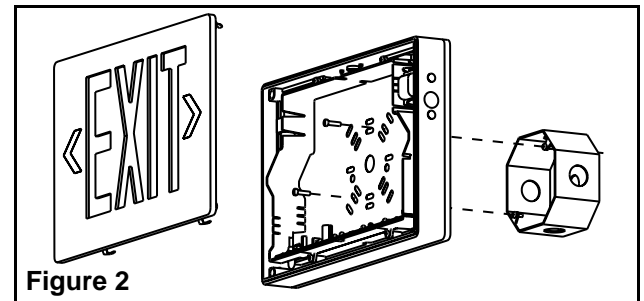

Figure 2
- b. With the help of a flat head screwdriver, knock out the proper hole pattern, including the center hole, in the back cover to mount to a standard junction box (See Fig. 2).